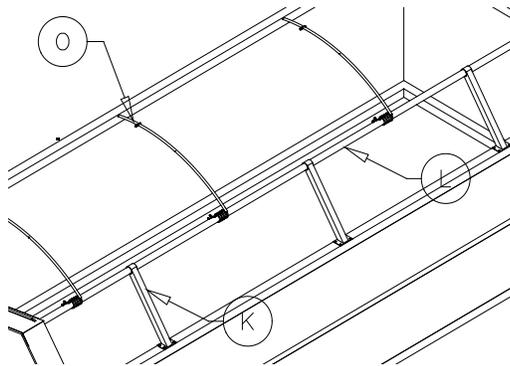
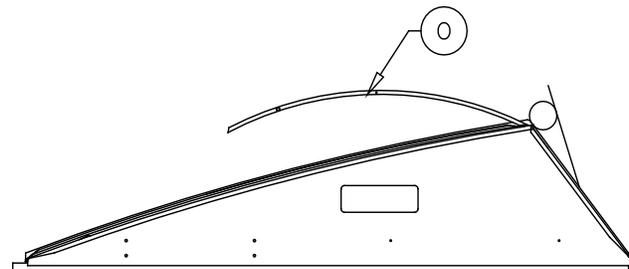

Figure 11
Figure 12
(See Figure 11, 12)
Procedure: Evenly space the Spring Loaded Cross-Members (O) on the Support Wall Roll-tube (L) between the hoods and Support Wall brackets (K) (see Figure 11). Adjust the Spring Loaded Cross-Members so that they are pointing upwards approximately at 10 o'clock. (Looking from the rear of the box) As the tarp opens, the Spring Loaded Cross-Members will spring upwards approximately 2ft above the tarp roll (See Figure 12). Tighten the 2" muffler clamp. The height of the Spring Loaded Cross-members can be adjusted to different heights to allow for more clearance. This will depend on what you are hauling.